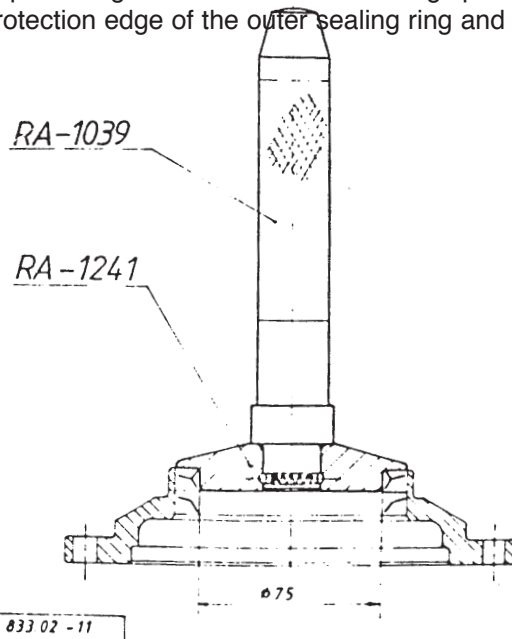

Fig. 3.: DRIVING OUT THE SEALING RINGS
By means of the tools shown remove the used sealing rings (4) from the cover (**see Fig. 3.**).